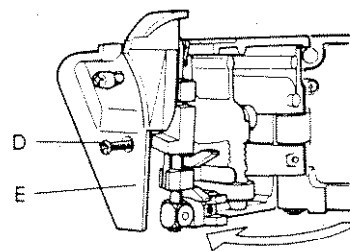

Fig. 2
9. Remove screw(D) and take off protection cover(E). (Fig. 2)